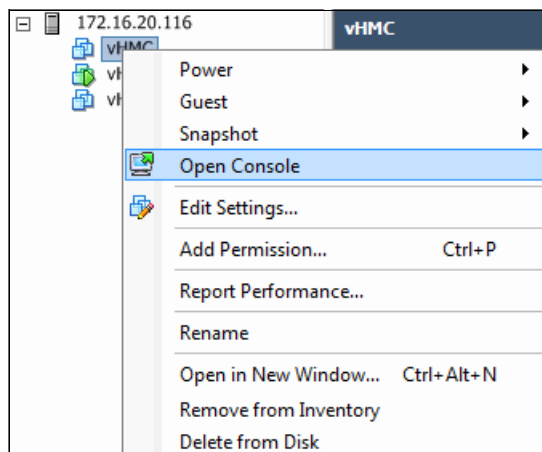

Figure 3-19 Open the VM's console
17. After the VM is created, you can start and boot from the ISO image file. You can open a console, as shown in Figure 3-19.